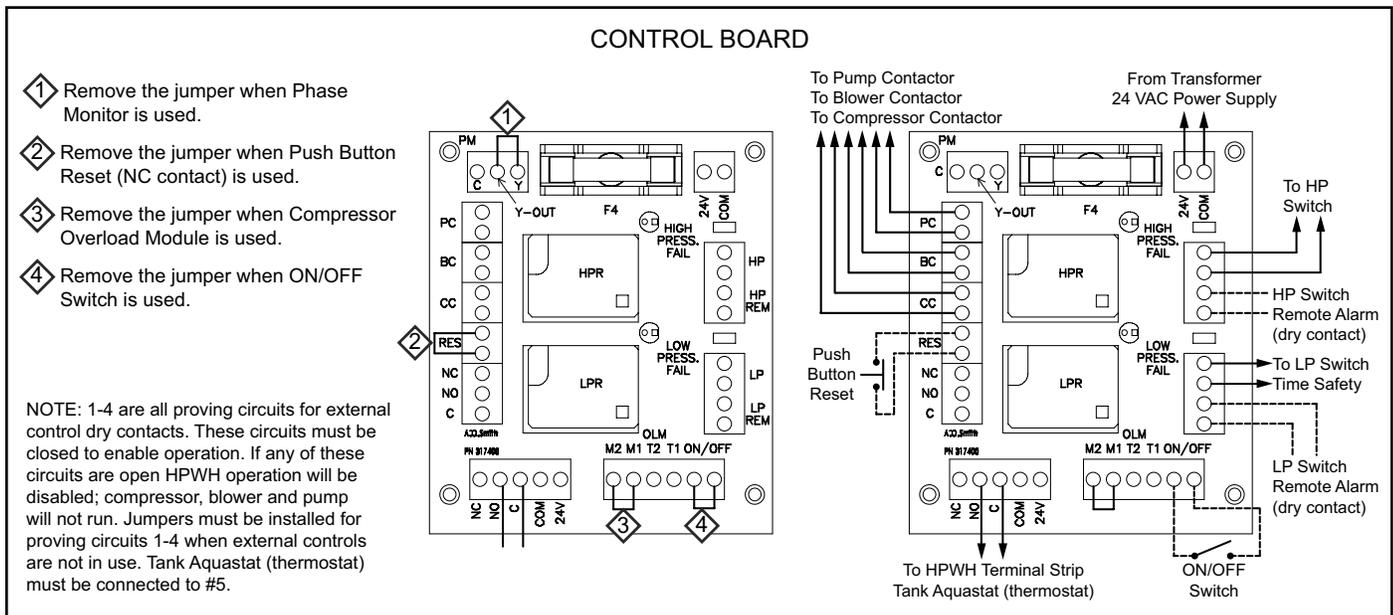
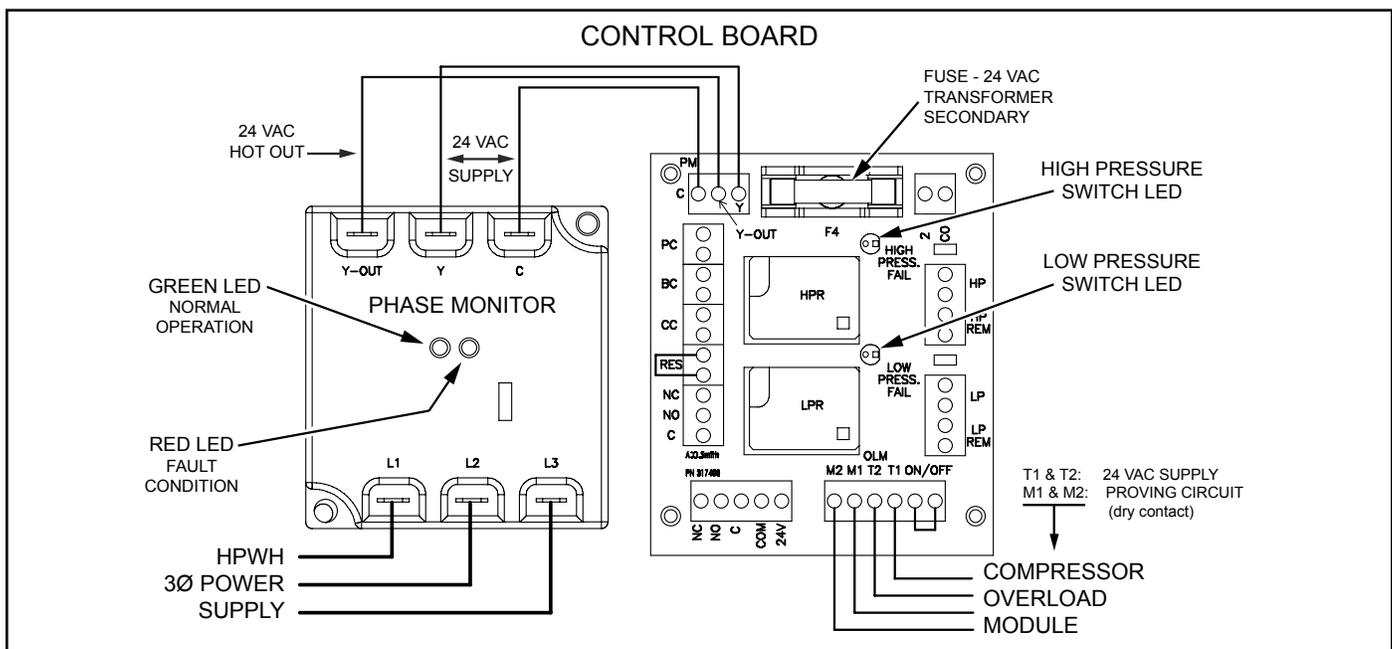

Figure 13
Figure 14
The heart of the control system is the Control Board which is a printed circuit board (PCB) installed inside the control box. See Figure 13 below, Figure 14 on page 30 and the Wiring Diagrams on pages 32 to 36.
SERVICE NOTE: All five (5) of these circuits must be closed or the HPWH will not operate. See items 1-5 in Figure 13 below. If the HPWH unit does not begin a heating cycle within 5 minutes (allowing time for the anti-short-cycle timer) after power is applied ensure the thermostat is calling for heat (closed contacts). is unresponsive when power is applied
Low and High pressure switch LED lights on the Control Board will be energized during this fault condition as a diagnostic aid to indicate which switch has caused the fault condition. See Figure 14 on page 30. The low pressure switch is on a time delay (Time Safety By-Pass) to prevent nuisance lockouts during start up when the return (inlet) water may be below . This delay is set for 300 seconds from the factory.